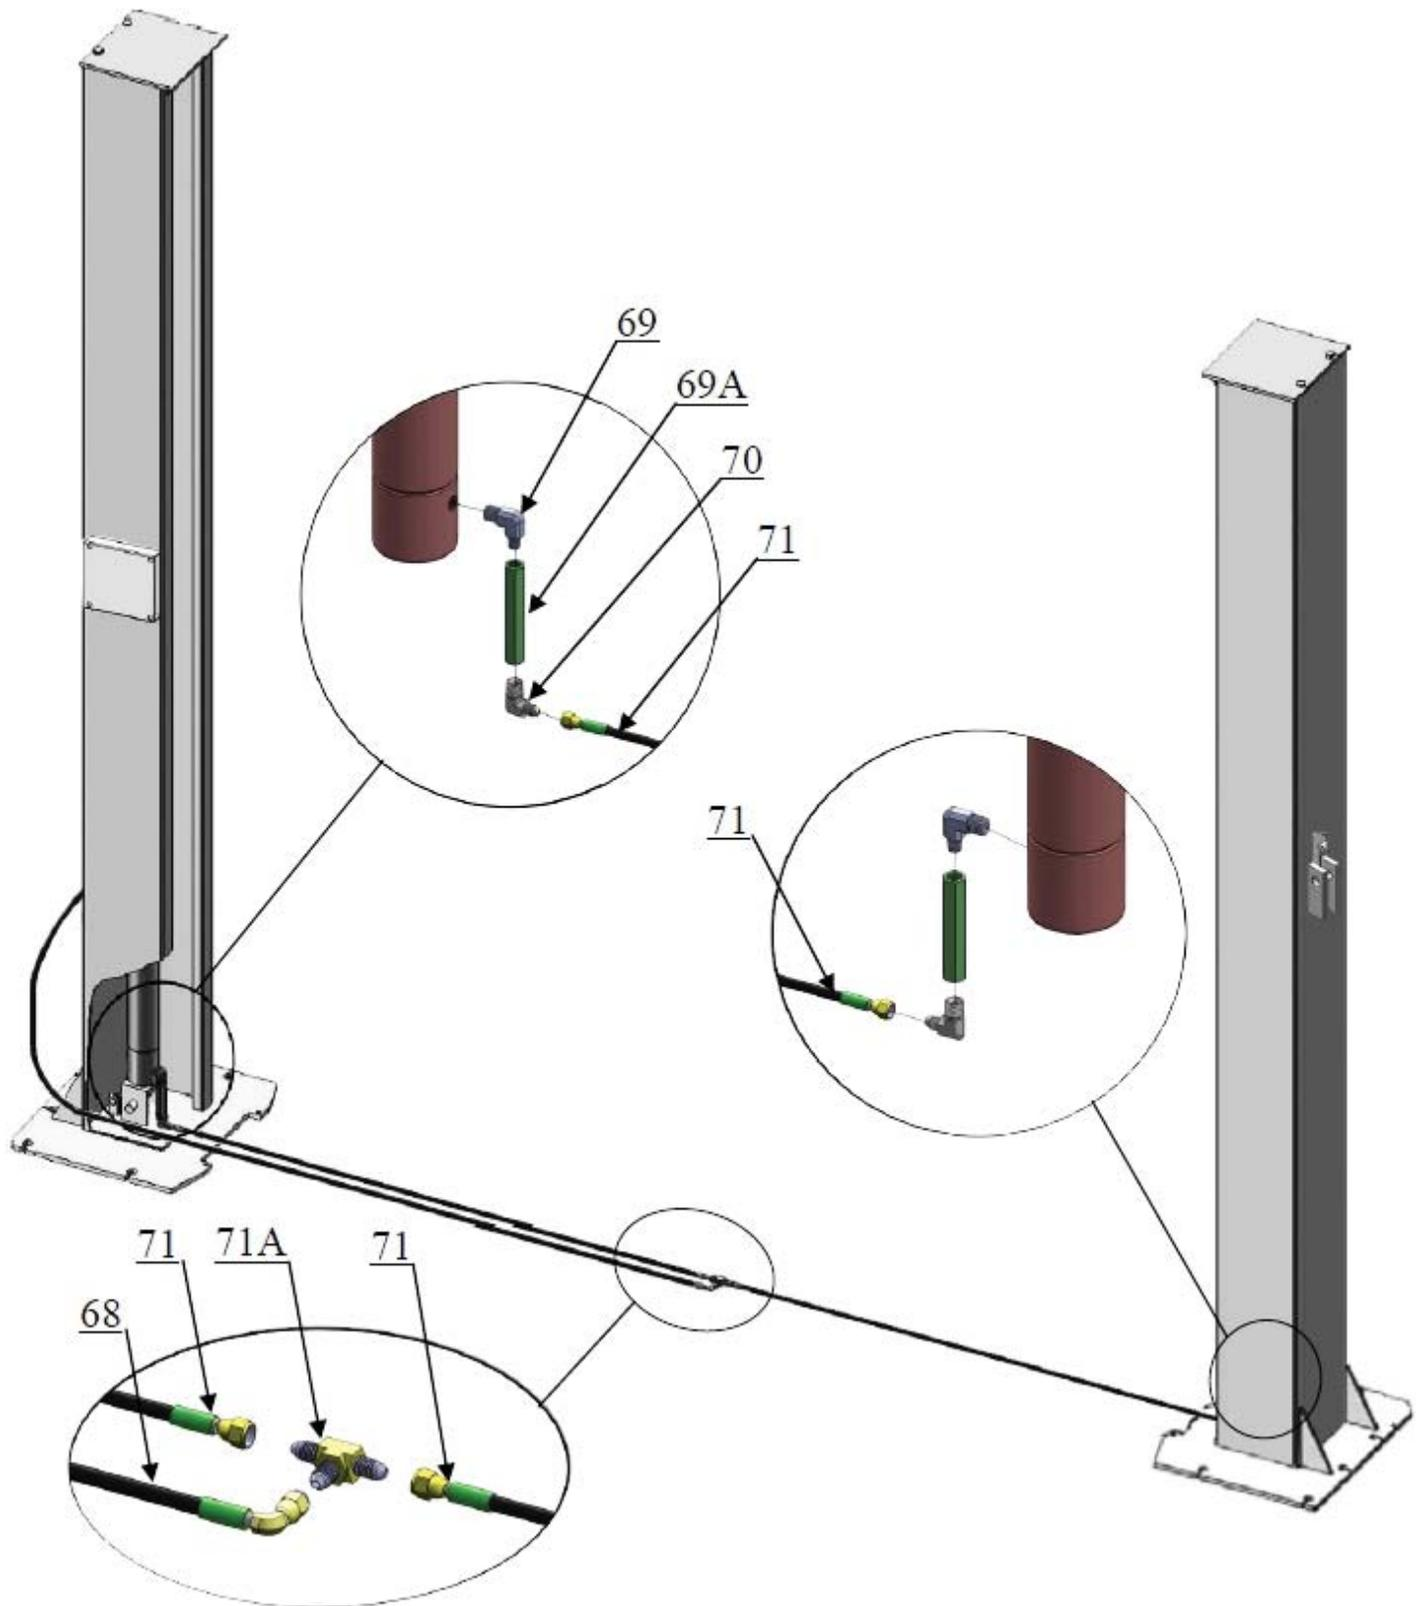

Fig. 26
J. Oil hose assembly. (See Fig. 26).